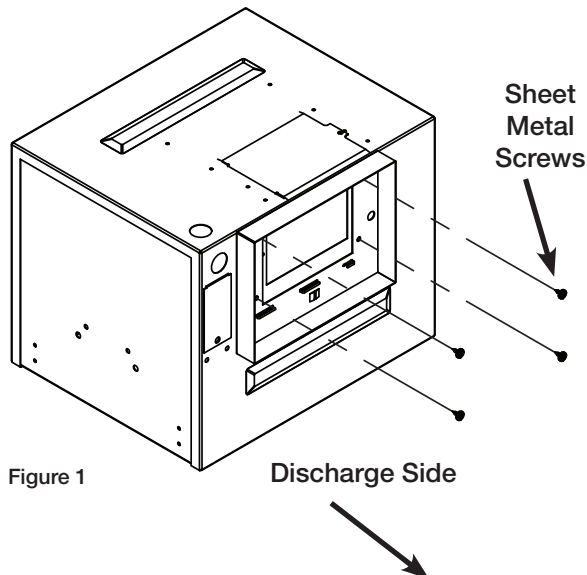

Figure 1
1. Remove the four (4) sheet metal screws that hold the duct connector to the blower box assembly on the discharge side. Refer to Figure 1.